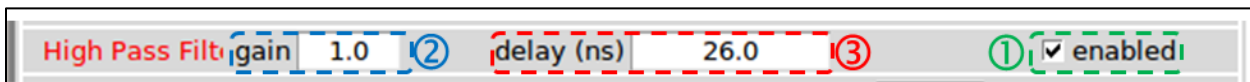

Figure 16: High-pass filter parameters
If the experimenter wants to benefit from a high-pass filter, he must check the "enable" box ① (Figure 16).
This high-pass filter is a delay-line pass-filter. The experimenter has to tune the gain from 0 to 1 ② (Figure 16), and the delay from 2 ns to 56 ns ③ (Figure 16).